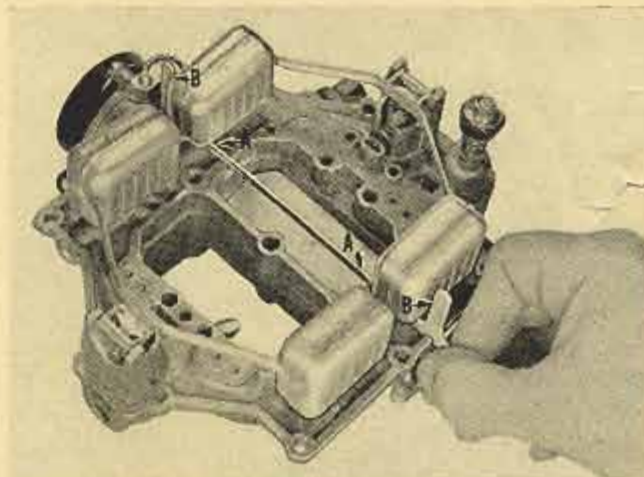
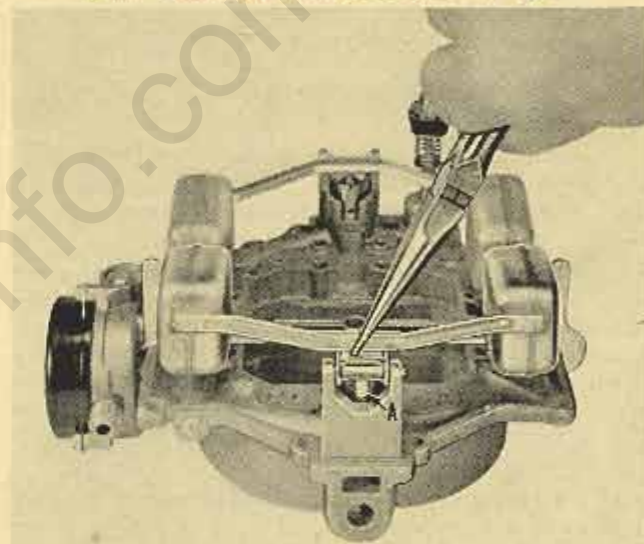

Fig. 4
Fig. 5
should just clear the horizontal section of the gauge, "A," Fig. 4 (vertical distance between top of float and machined surface of casting is $5/32$ " Bend float arms as required, Fig. 5.
B. Float Alignment: With gauge in position, the float arms should be bent for sideways adjustment until floats just clear the vertical uprights of the float gauge, "B," Fig. 4.
C. Float Drop: With the bowl cover (air horn) supported in an upright position, the distance from the machined surface of bowl cover to the top of the both floats should be $\frac{1}{2}$ " Fig. 6. Adjust as necessary by removing float and bending the small tang which contacts the float needle seat, "A," Fig. 5. Bend tang toward needle seat to lessen drop, or away from seat to increase drop.